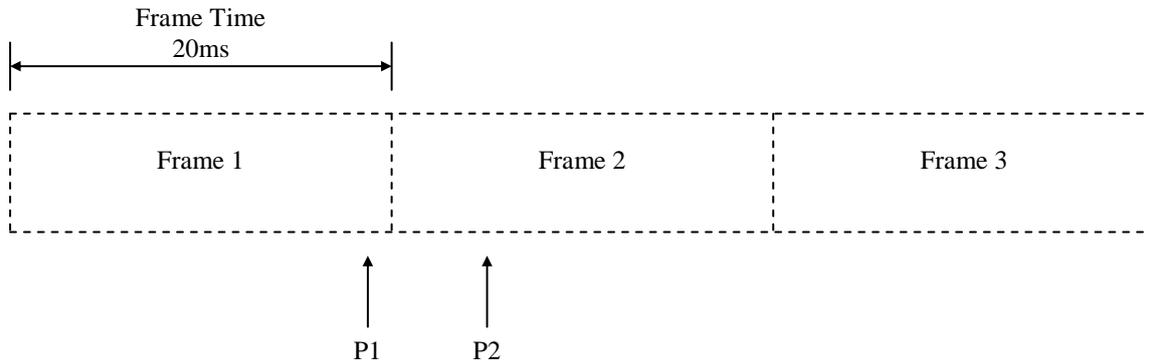

Figure 9: Data arriving at different times relative to the start of frame
- Framing delays:** Framing delays will occur depending on where data arrives relative to the start of a frame. Consider the situation in Figure 9.